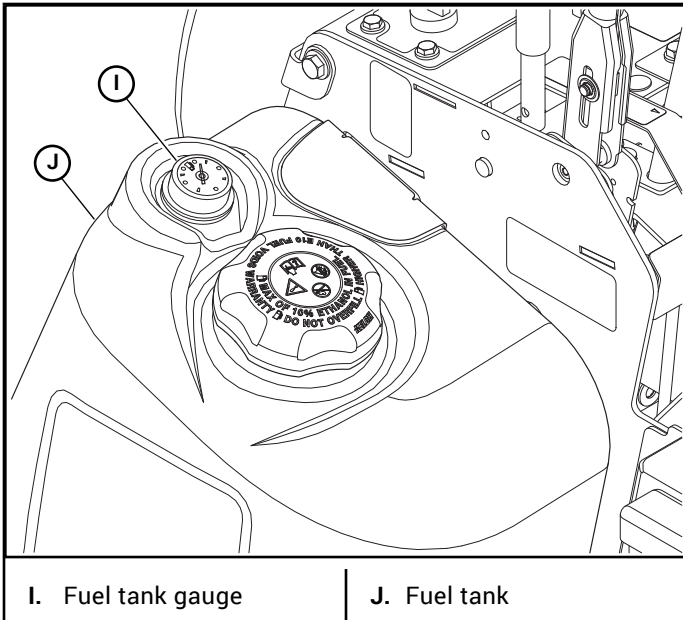

Figure 3-3
- I. **Fuel tank gauge (Figure 3-3)** – This gauge shows the fuel level for the fuel tank. Each fuel tank has a separate gauge.